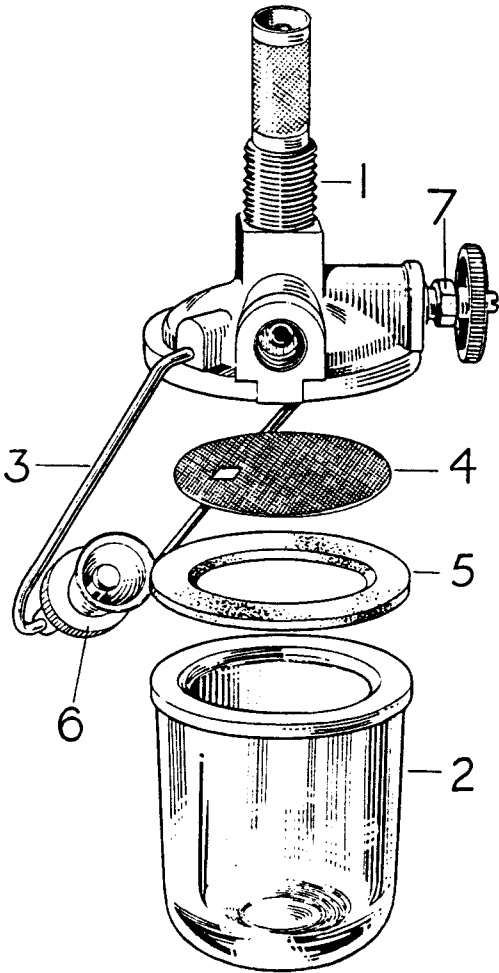
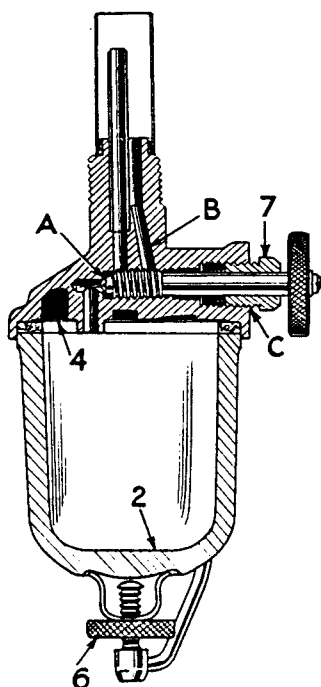

FIG. 5
FIG. 6
**Petrol Valve and Sediment Bowl Assembly. Fig. 5.**
The two way valve and sediment bowl assembly is shown in Fig. 5. It consists of a valve assembly (1) to which is attached a sediment bowl (2) by means of a retainer (3). Located between the bowl and the valve are a filter gauze (4) and a gasket (5). A cross-section through the valve and sediment bowl assembly is shown in Fig. 6.
**Function of the Petrol Valve and Sediment Bowl. Fig. 6.**